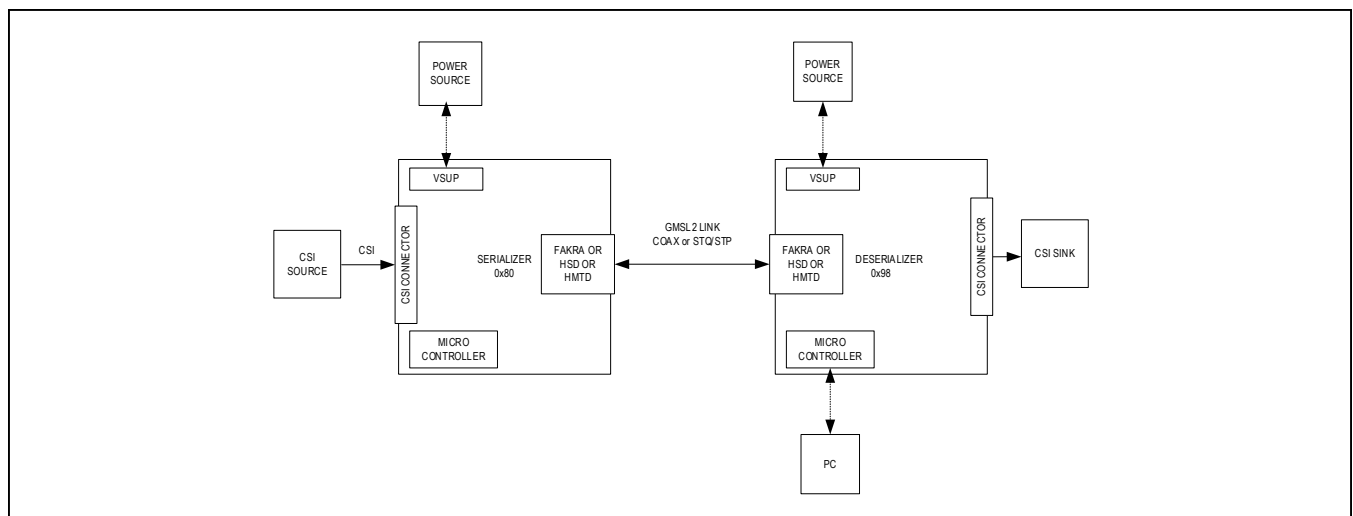

Figure 1. GMSL System Board Block Diagram
This procedure applies to both Coax, HSD and HMTD EV kits. The Coax evaluation kit is referenced in this document. Figure 1 shows a typical application which uses the CSI serializer with the CSI deserializer.
- 4) Set up the system as shown in Figure 1.